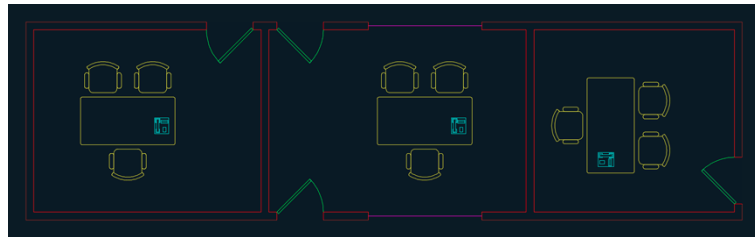

FIGURE 7.24 Copying and rotating groups in rooms
3. Click the Rotate tool on the Modify panel, select the group in the room on the right, and press Enter. Click an arbitrary point inside the desk, type `-90`, and press Enter (see Figure 7.24).